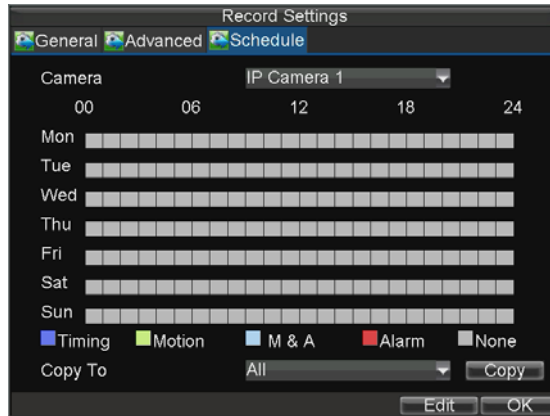

Figure4. Scheduling a Recording
2. Select the **Schedule** tab to enter the Schedule dialog box, shown in Figure 4.